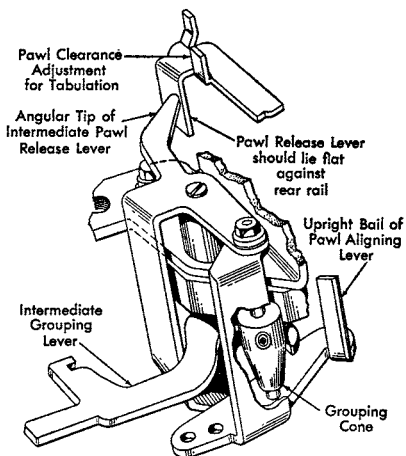

Figure 14. Pawl Release Mechanism
2. **THE ANGULAR TIP** of the intermediate pawl release lever is adjusted by forming so as to allow $\frac{1}{32}$ " to $\frac{1}{16}$ " clearance between the upright bail of the pawl aligning lever and the pawl tails when all parts are at rest (Figure 14). Before forming the tip, be sure it is resting against the pawl release lever and that the apron of the pawl release lever is flat against the rear rail.
3. **PAWL CLEARANCE** is obtained by forming the rear upright lug of the pawl release lever so that the escapement pawls clear the rack by $\frac{1}{64}$ " when the tab lever is latched out (Figure 14).